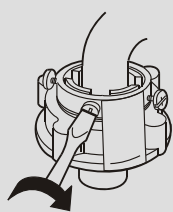

Figure 4
4. Install the back cover. Hang the under side of the back cover on the cabinet firstly, then push the left , the right tab and the upside into the cabinet. Do not do it strongly, and fasten the screws. (Figure 4)
(Figure 4)
3. Fasten the four screws evenly. See to Figure 4.